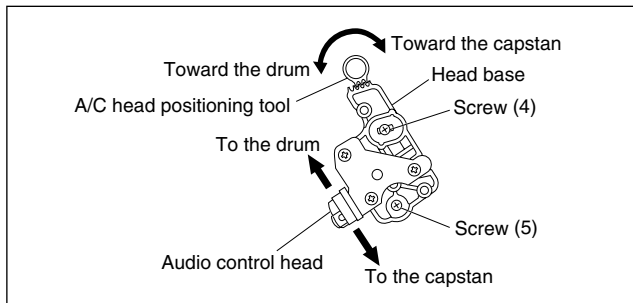

Fig. 2-3-3a
- (1) Play back the alignment tape (A1).
- (2) Apply the external trigger signal to D,FF (E), to observe the V.PB FM waveform at the measuring point (D).
- (3) Press the channel buttons (+, -) simultaneously to enter the manual tracking mode. This also brings tracking to the center (centre).
- (4) Loosen the screws (4) and (5), then set the A/C head positioning tool to the innermost projected part of the A/C head. (See Fig. 2-3-3a.)
- (5) Turn the A/C head positioning tool fully toward the capstan. Then turn it back gradually toward the drum and stop on the second peak point position of the V.PB FM waveform output level. Then tighten the screws (4) and (5).
- (6) Perform the tracking operation and make sure that the V.PB FM waveform is at its maximum. If it is not at maximum, loosen the screws (4) and (5), and turn the A/C head positioning tool to bring the A/C head to a position, around where the waveform reaches its maximum for the first time. Then tighten the screws (4) and (5).